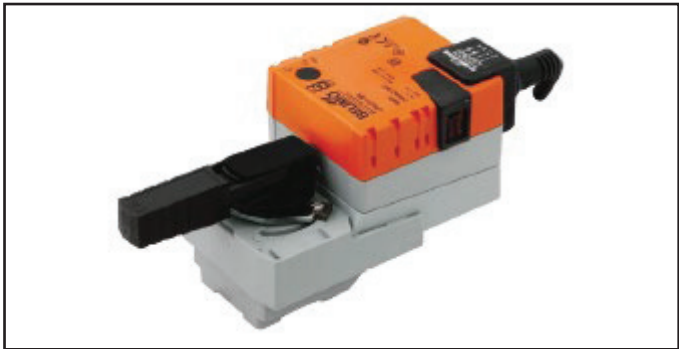

Figure 5-10. Diagram of the Handle Position at the Maximum Opening
- Step 1: As shown in Figure 5-10, press and hold the unlock button on side of the water valve actuator and manually rotate the water valve actuator swivel handle 90° in clockwise direction, at which point the ball valve is maximally open.